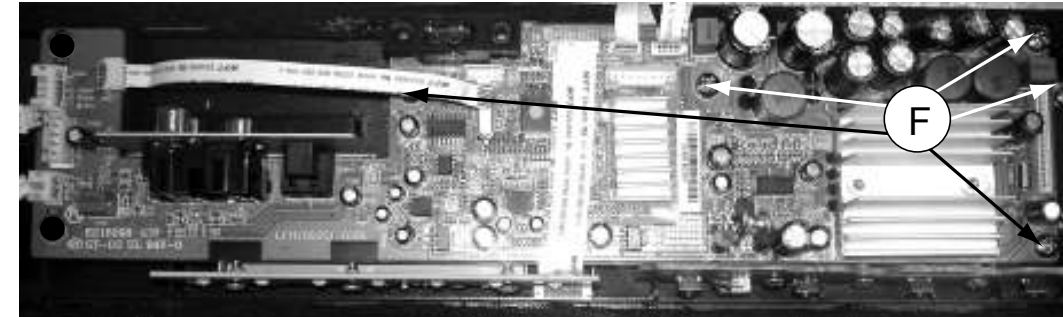

Figure 6
- 1) Loosen 4 screws "F" on the top of Main Board as shown in figure 6.